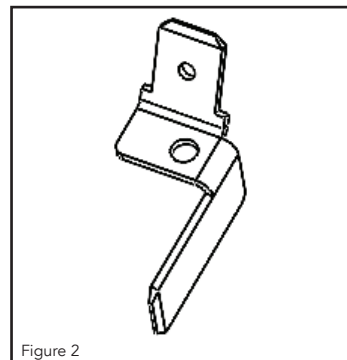

Figure 2
4. Replace terminals with terminals provided in the bag. (See Figure 2)